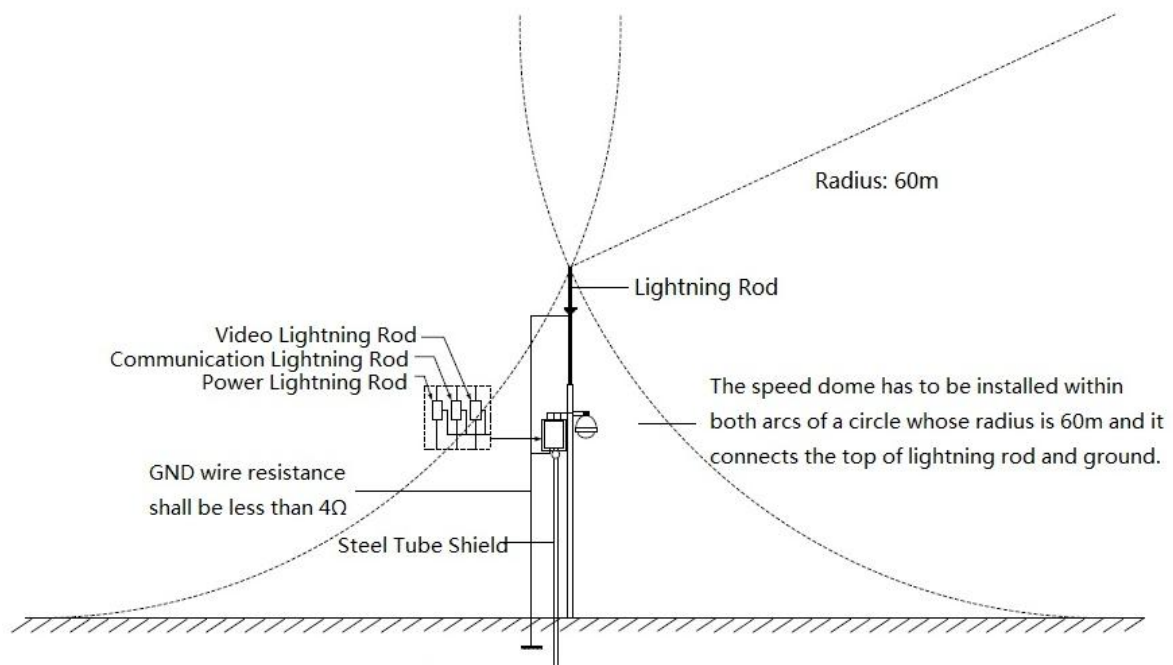

Figure 7-1
- System shall adopt equal-potential wiring. The earth device shall meet anti-jamming and at the same time conforms to your local electrical safety code. The earth device shall not short circuit to N (neutral) line of high voltage power grid or mixed with other wires. When connect the system to the earth alone, the earth resistance shall not be more than 4Ω and earth cable cross-sectional area shall be below 25 mm^2 . See Figure 7-1.